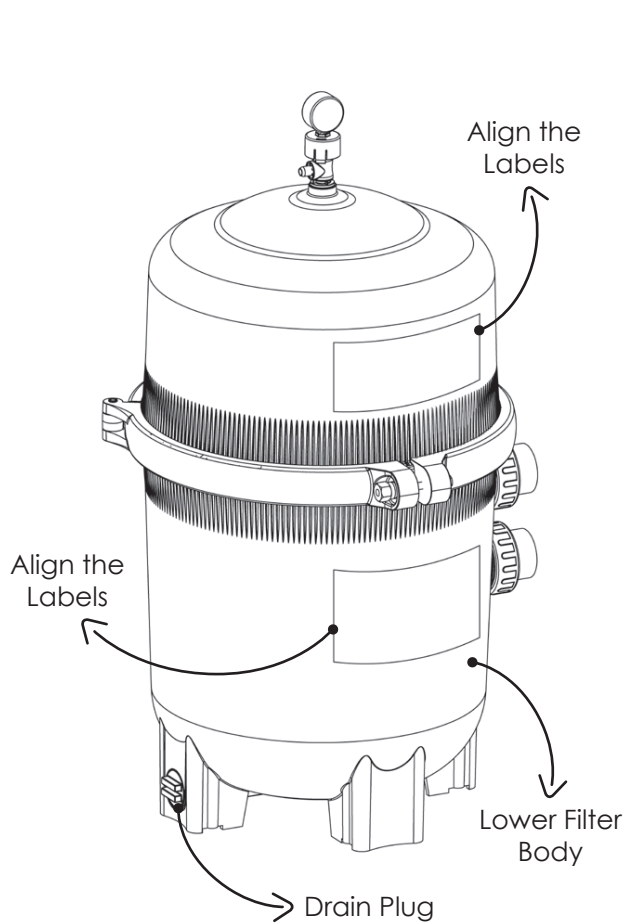

Figure 9
1. Flush and drain any dirt or debris from the bottom of the Lower Filter Body. (See Fig 9)